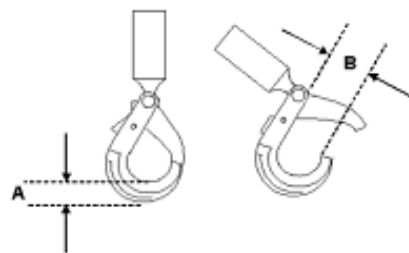

Figure 4. Shank Hook
- a. Inspect the hook for the dimensions shown in figure 4 and table 2. If dimensions exceed those in table 2, remove the swivel from service. See C. Refurbishing Procedures.